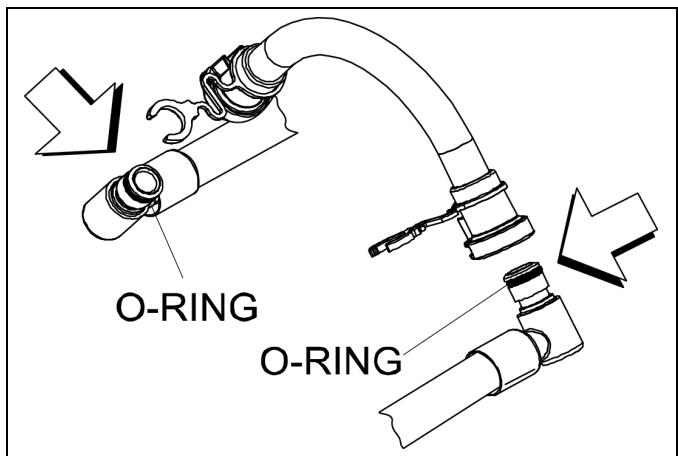

Figure-69
1. Lubricate the O-rings on the syrup line fittings with Taylor Lube HP. (See Figure-69.)